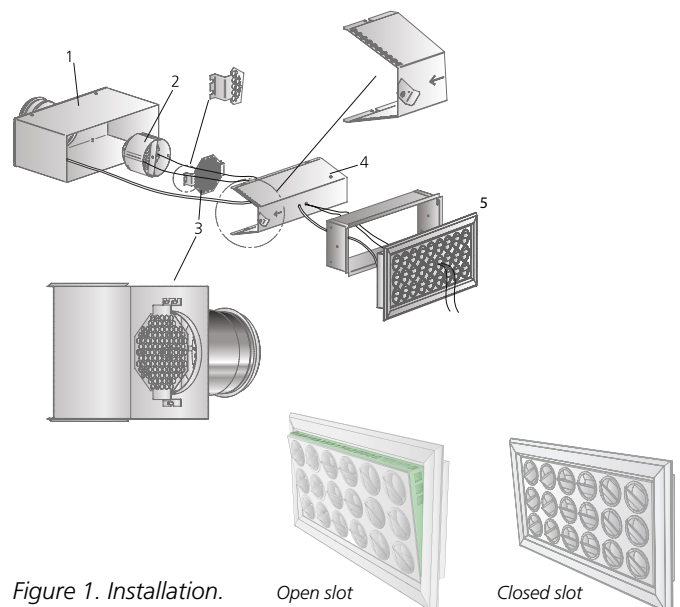

Figure 1. Installation.
4. The assembly and dismantling of the component parts are shown in Figure 1.
Clean the air diffuser when necessary using lukewarm water with added detergent. The duct system can be accessed after opening the diffuser face by pulling it down from the upper edge, withdrawing the air distribution baffle and lowering the fully open damper. See Figure 1.